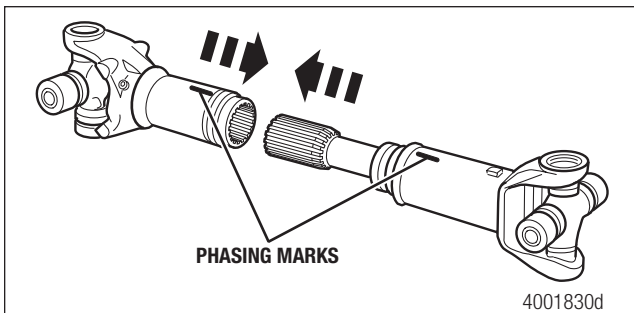

Figure 5.14
6. Align the slip yoke and spline shaft sections with the phasing marks you made on these sections during disassembly. Figure 5.14.
7. Install the spline shaft into the slip yoke until the splines fully engage. Figure 5.14.